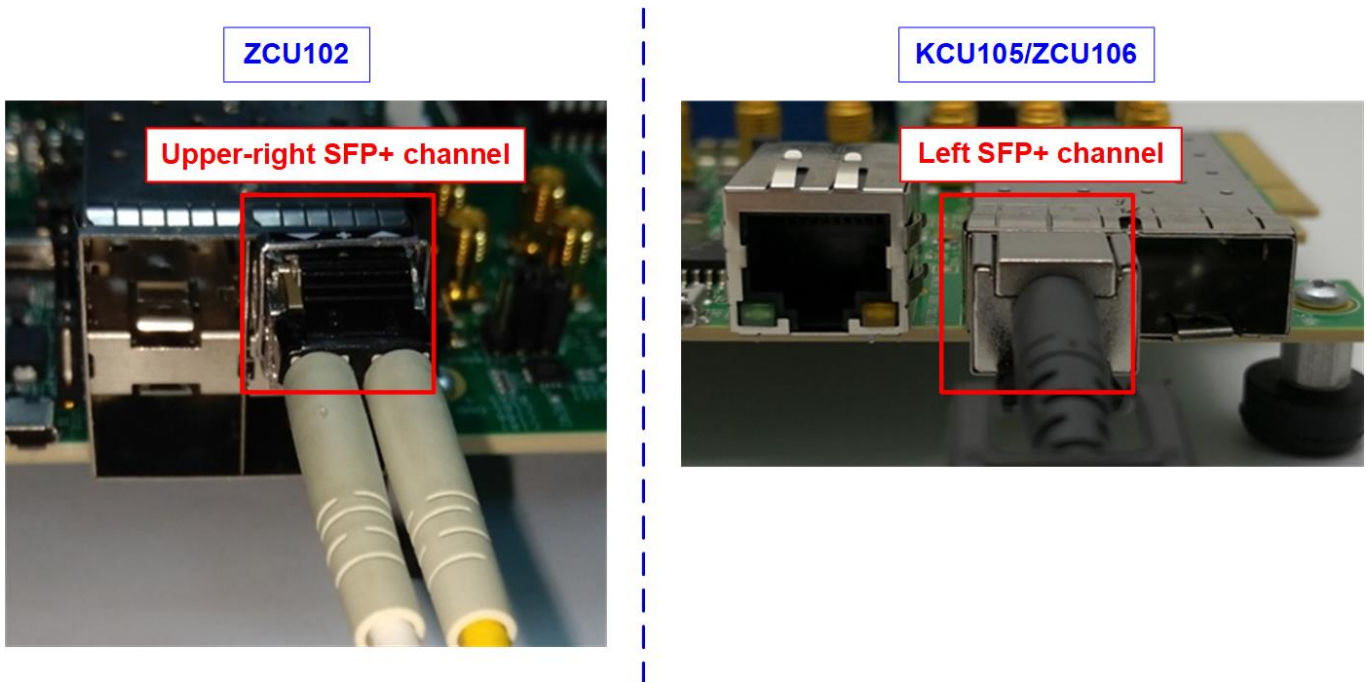

Figure 2-3 SFP+ channel using on ZCU106/KCU105 board
- 5) Connect 10Gb Ethernet cable between FPGA board and PC by inserting 10 Gb SFP+ AOC. Some boards have many SFP connectors, use the channel as shown in Figure 2-3.